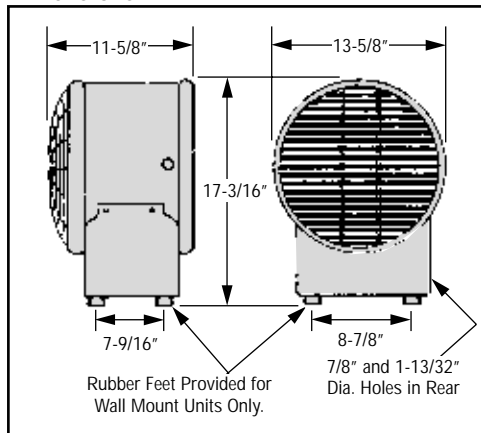

Figure 1
C. In either case, minimum mounting height is 7 feet from floor to bottom of heater. (See Figures 1 and 2.)